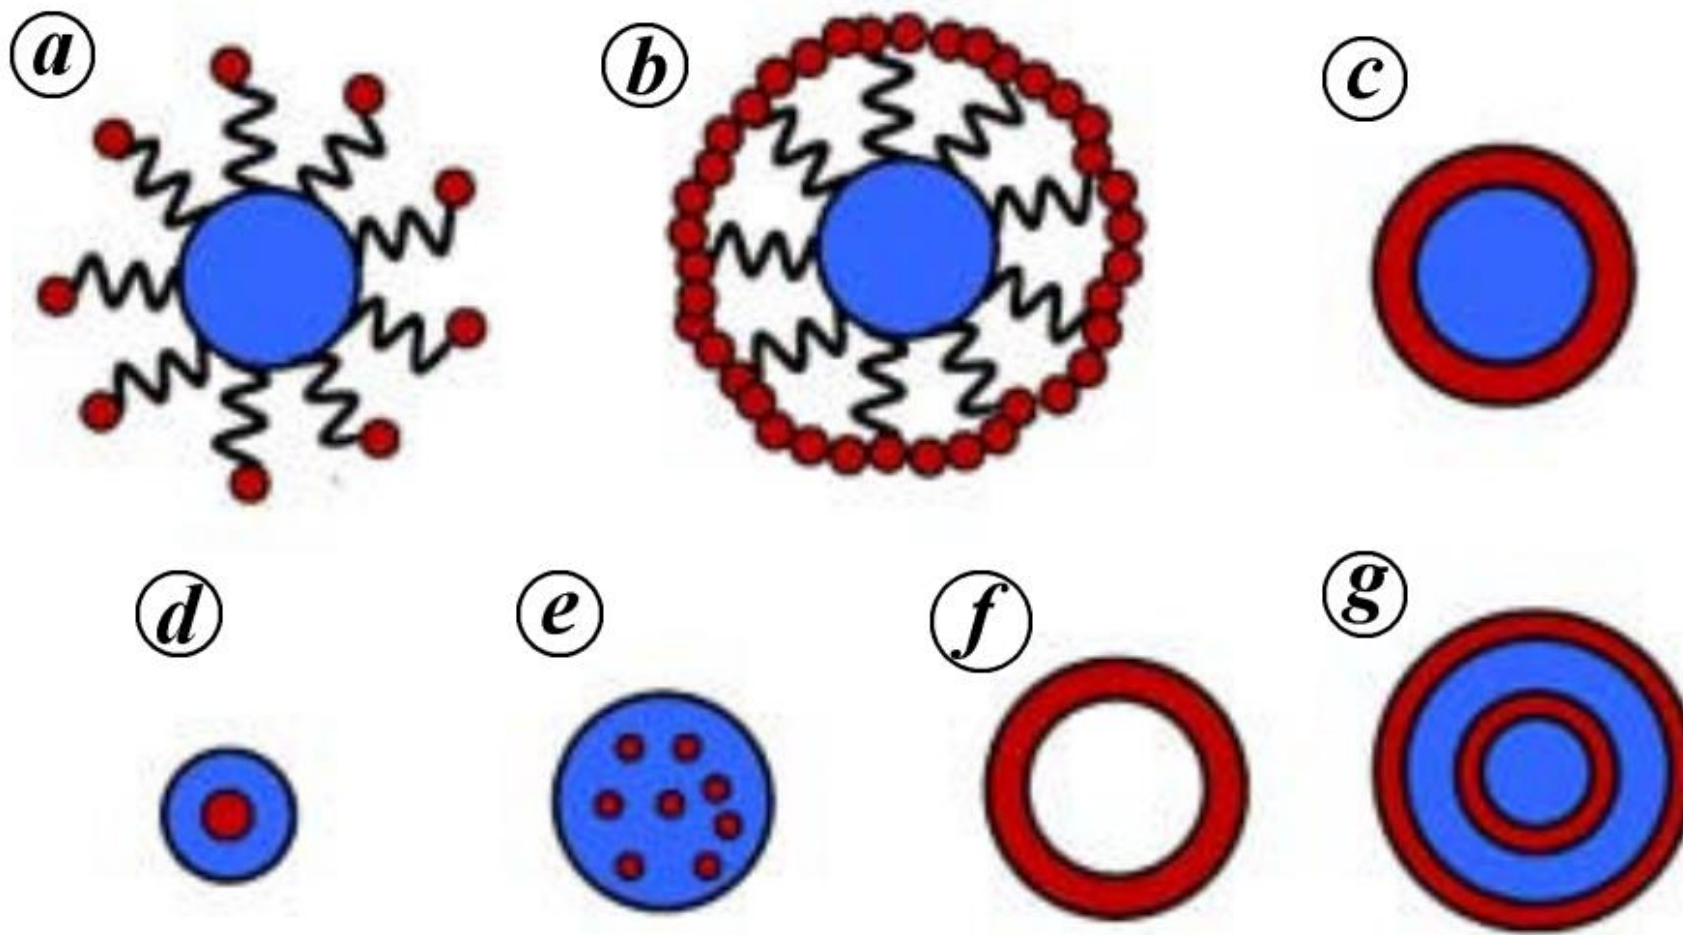

Figure 1. Variety of core-shell particles.
- (I) cross section through **alloyed** metal nanoparticle showing disordered nature of atomic occupancies,
- (J) cross section through nanoparticle composed of **an intermetallic compound** showing ordered atomic occupancy,
- (K) metal nanorods coated in a thick shell of dielectric,
- (L) dimer with incoherent crystalline interface between the parts,
- (M) dimer with coherent interface between the parts,
- (N) nanorods with overgrowth of another metal at the rod ends,
- (O) nanorods with a sparse overgrowth of a second metal,
- (P) segmented** nanowires or nanowire composed of two or more elements, and
- (Q) “nanotadpole”.
- ✓ Figure 1 shows a schematic diagram of a variety of core shell particles. Surface of the core particle can be modified using bifunctional molecules and then small particles can be anchored on it (Figure 1 *a*).
- ✓ Nanoparticles grow around the core particle and form a complete shell (Figure 1 *b*). In some cases, a smooth layer of shell material can be deposited directly on the core by co-precipitation method (Figure 1 *c*).
- ✓ Small core particles such as gold or silver (10–50 nm) can be uniformly encapsulated with silica (Figure 1 *d*).
- ✓ Also a number of colloidal particles can be encapsulated inside a single particle (Figure 1 *e*).
- ✓ ***Core particles can be removed*** either by calcination or by dissolving them in a proper solvent. This gives rise to ***hollow particles*** also known as ***quantum bubbles*** (Figure 1 *f*).
- ✓ Concentric shells also can be grown on core particles to form a novel structure known as ***multishell*** or ***nanomatryushka*** (named after the Russian doll; Figure 1 *g*).